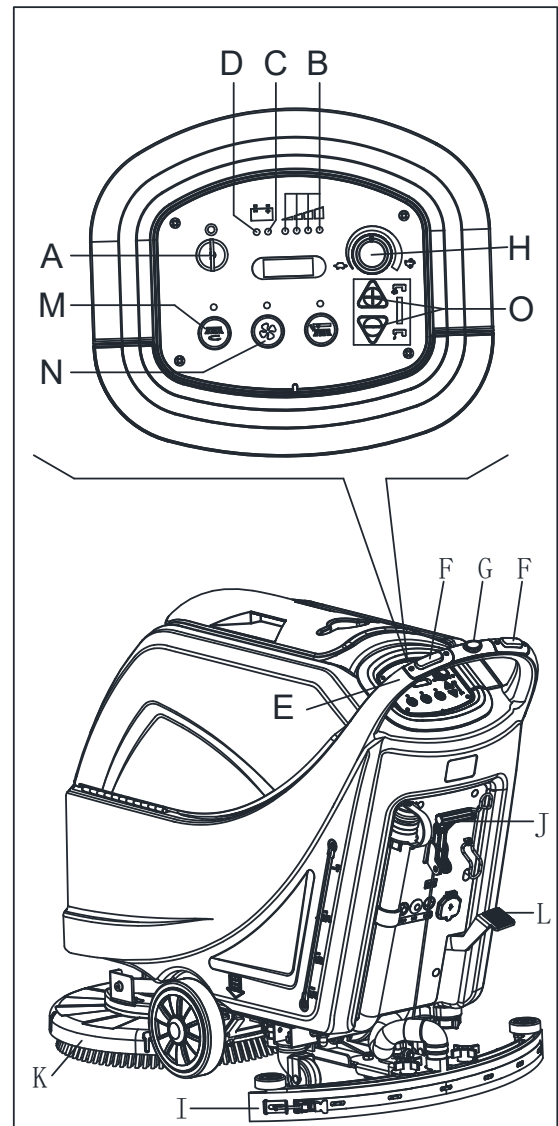

Figure 8
2. Insert the ignition key (A, Figure 8) and turn it to "I".
1. Lower the brush/pad-holder deck by press the Brush/pad-holder switch (M Figure 8).
2. While keeping both hands on the handlebar press the safety switch (F, Figure 8), then manoeuvre the machine and start scrubbing/drying the floor.